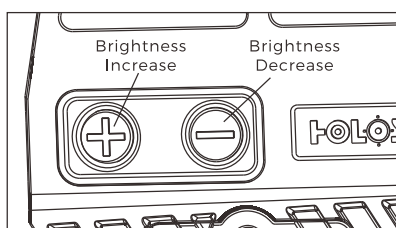

Fig7
1. To Power ON (see Fig7): Press and release either brightness button ("+" or "-") to turn on the sight.